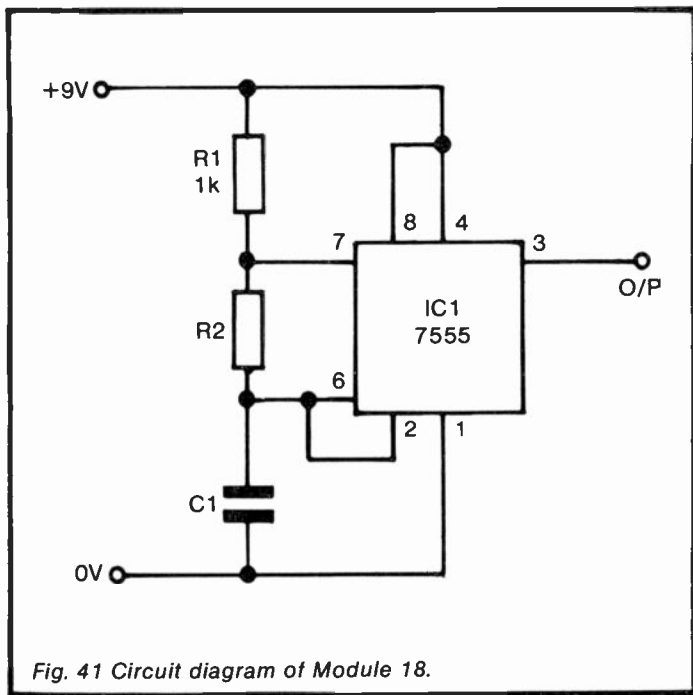

Fig. 41 Circuit diagram of Module 18.
*Circuit diagram:* see Figure 41.
*How it works:* the module is based on the 7555 CMOS timer IC. Current flows through R1 and R2, charging C1. When the p.d. across C1 reaches two-thirds of the supply voltage (i.e. 6V if run on a 9V supply) this is sensed by the chip at pin 6. The capacitor is then discharged through R2, the current flowing through pin 7 to ground. This continues until the charge on C1 has fallen to one-third of the supply voltage (i.e. 3V). As the charge falls just below this level, the trigger pin (2) triggers the ic to begin charging C1 again.